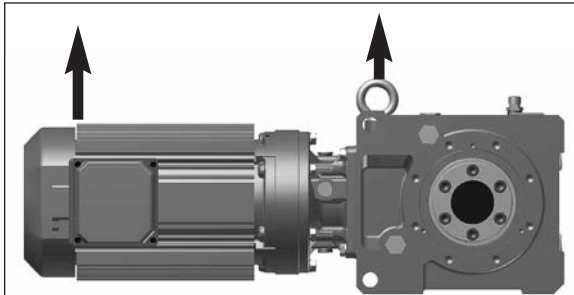

Fig. 5.9 Externally Support the Unit
**Step 2** – Before removing the reducer/gearmotor from the driven shaft, externally support the unit so that all its weight is removed from the driven shaft (see Fig. 5.9). **Caution: Do not raise the unit too high. It may cause the shaft to bind.**